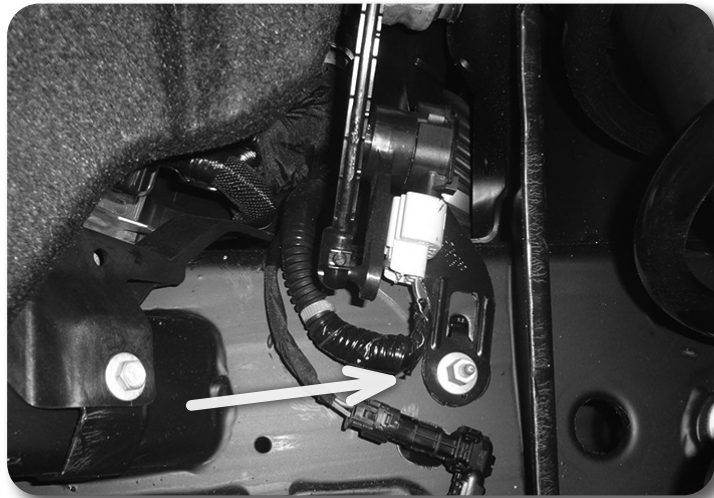
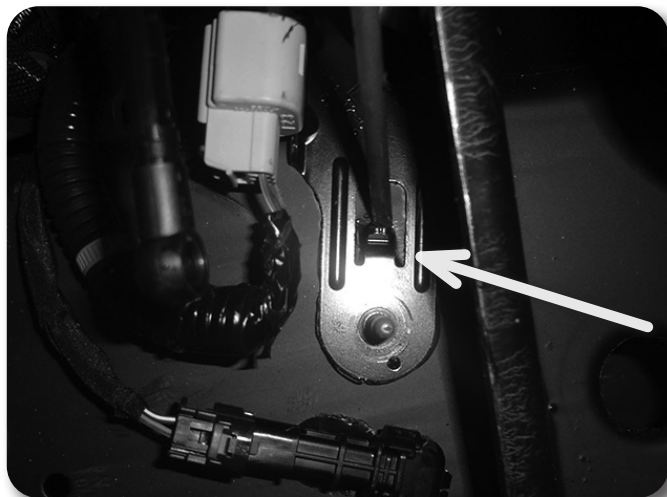

Figure 48B
Figure 48C
72. **6" Denali Models (ARC Models) Only:** Remove the nut attaching the ARC sensor to the frame Fig. 48B. Lightly reattach the nut to the stud. Tap the stud in until the bracket assembly is loose. Remove the ARC sensor from the frame by prying down on the tab and pulling out on the sensor bracket Fig. 48C.